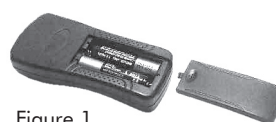
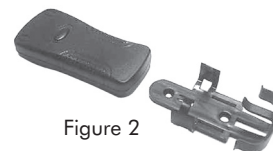

Figure 1
Figure 2
**ON/OFF Remote Controller** - remove the battery cover from battery compartment and replace with 2pcs new alkaline AAA batteries (see figure 1). The remote controller comes with an holder, which can be fixed on the wall or wherever required (see figure 2).